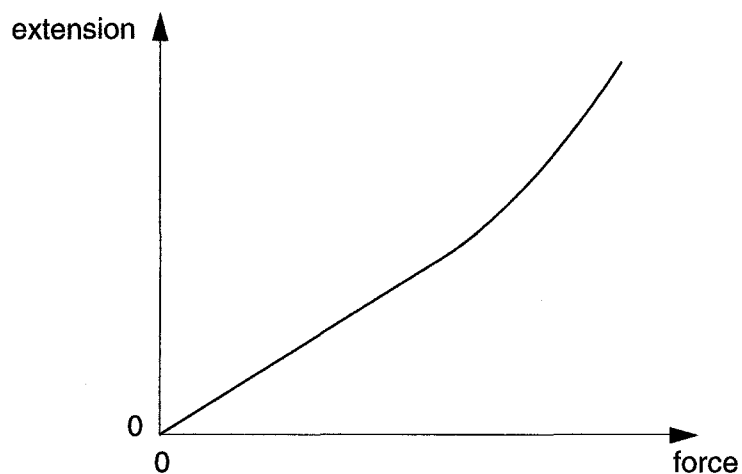

Fig. 3.1
- 3 (a) Fig. 3.1 shows the variation with tensile force of the extension of a copper wire.
- (ii) 1. On Fig. 3.1, mark with the letter L the point on the line beyond which Hooke's law does not apply.
2. State how the spring constant for the wire may be obtained from Fig. 3.1.